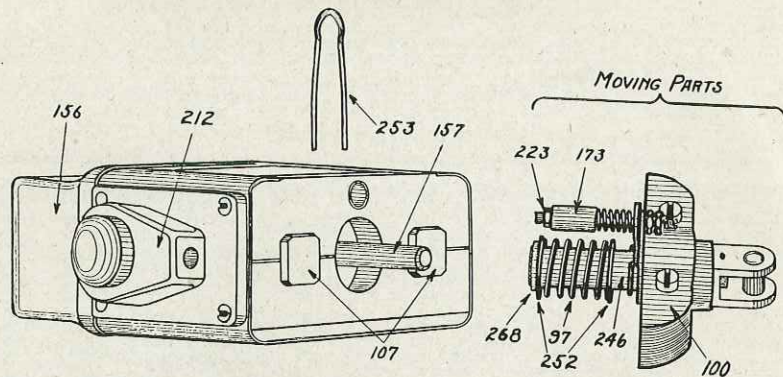
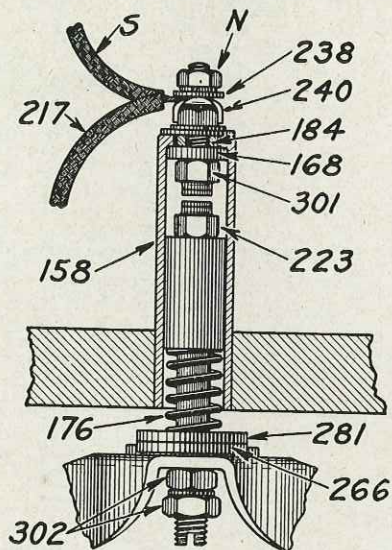

Figure 16
Figure 17
Figure 16 shows the stationary and moving parts of the Wico Magneto. Figure 17 shows the parts with numbers of the breaker point group.
(See Figure 17)
The breaker point contacts (301) and (223) should just touch when the armature (100) is 7-64" from the cores (107). To adjust, trip the armature from its contact with the cores, and insert a strip of metal 7-64" thick between the armature (100) and the face of the cores. Loosen the nuts (302) on the breaker point stem, (see Figure 17), and turn the upper nut until the contact (223) just touches the contact (301). Then set up the lower nut tight against the upper nut. As soon as adjustment has been made, be sure to remove the strip that you placed between armature and cores.
To replace the moving contact (223):—Withdraw the moving parts (see Figure 16), and remove the old contact and its spring (176) from the breaker point plate by unscrewing the two nuts (302). Substitute the new moving contact, being careful to replace the felt washers (266 and 281) as shown in Figure 17.
To replace fixed contact (301):—Remove the front cover and the spring support (253) and withdraw the moving parts (see Figure 16). Disconnect condenser lead (S) and primary lead (217) from breaker point tube (158). Remove all nuts and washers from shank of the contact (301) and push contact down and out of tube. There are two insulating washers (168 and 184) inside of tube and these should be removed also.
Remove the front cover and use a small wire or piece of wood to remove any dirt from the surfaces of the contacts (301 and 223) and from the insulating washer (168). (See Figure 17). See that electrical connections are tight.